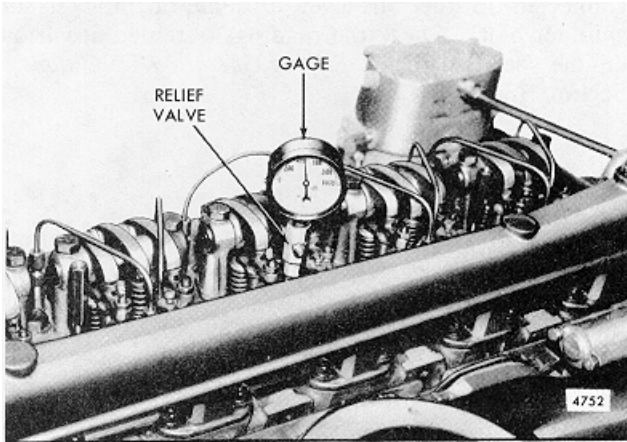

Fig. 2 - Checking Compression Pressure
3. Remove the injector and install an adaptor and pressure gage (Fig. 2) from Diagnosis Kit J 9531-01.